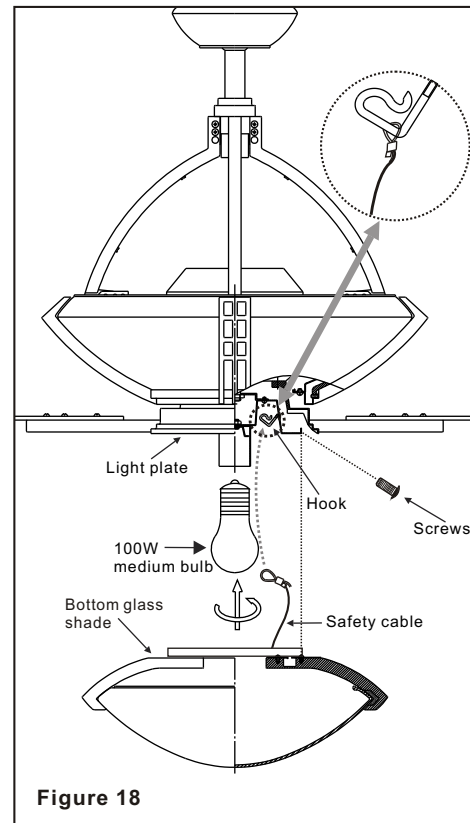

Figure 18
Step 4. Install 100W medium base light bulb (included). (Figure 18)
Step 5. Raise the glass shade up against the light plate, place looped end of the safety cable over the hook located on the light plate. Install the glass shade onto the light plate with 4 screws provided. Be sure to tighten all screws. (Fig. 18).